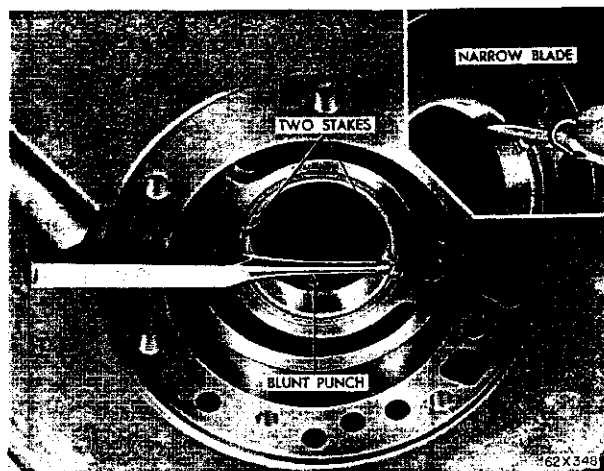

Fig. 87—Staking the Front Pump Bushing—TorqueFlite
(6) Drive the bushing into the housing until the tool bottoms in the pump cavity. Be careful not to cock the tool during installation.
(7) Stake the bushing in place by using a blunt punch or similar tool (Fig. 87). A gentle tap at each stake slot location will suffice.
(8) Using a narrow-bladed knife or similar tool, remove the high points or burrs around the staked
area (Fig. 87). Do not use a file or similar tool that will remove more metal than is necessary.